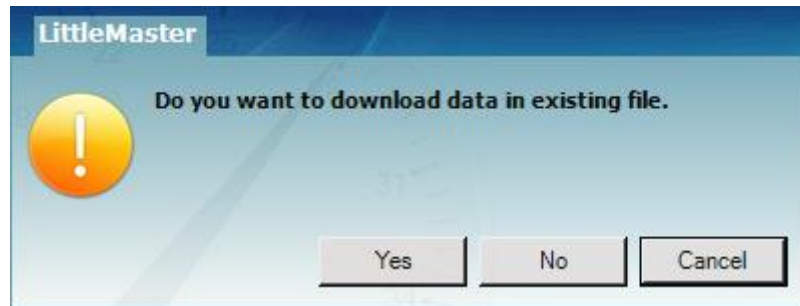

Figure 15 Option for downloading multiple device data in existing file
- Download the first device data and connect the second device to download the data, select option “Yes” in the message pop up as shown in figure 15 for downloading in existing file.